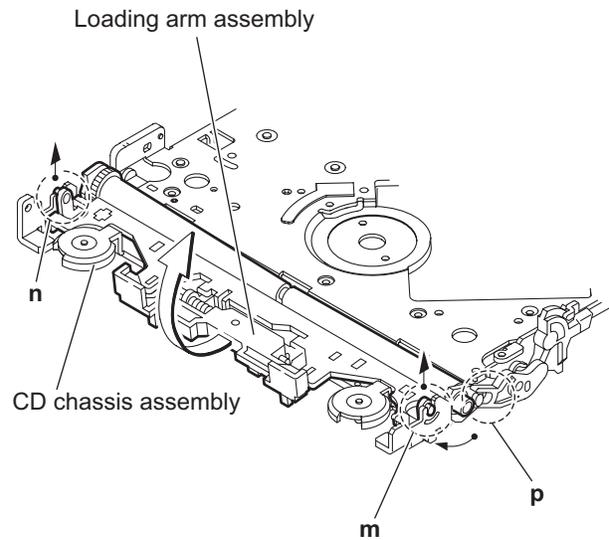

Fig.13
3.2.7 Removing the loading arm assembly (See Figs.13 and 14)
- From top side of the mechanism section, move the loading arm assembly in the direction of the arrow. (See Fig.13.)
- Release the projections from the right and left joints (**m**, **n**) of the CD chassis assembly. (See Figs.13 and 14.)
- Release the projection from notch **p** of the connect arm on the right side of the mechanism section and release the projection from notch **q** of the slide cam assembly on the left side. (See Figs.13 and 14.)